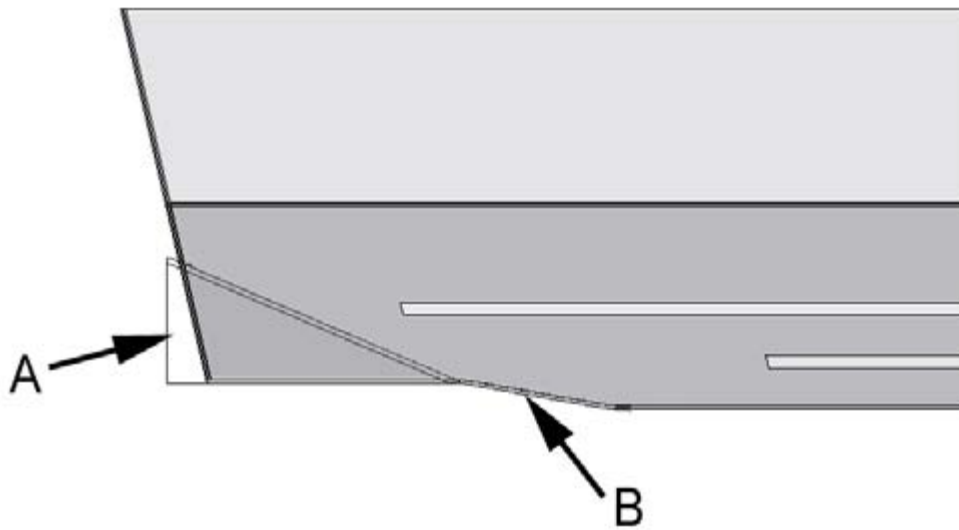
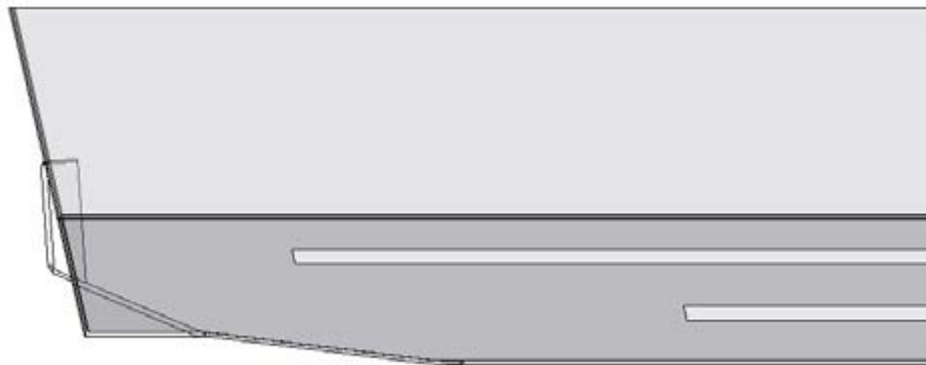

Figure 6. Positioning of the mounting template, "short tail"
Figure 13. Long tail aluminium mounting template
1. Make a hole at the bottom and the stern of the boat for the mounting template. The mounting template should be positioned slightly over the stern of the boat. The excess part can be cut away after installation (figures 6 and 7, point A).
In a long tail installation, the collar of the mounting template covers the inner surface of the stern and the excess material must be cut after installation (figure 13). In a short tail installation, the excess collar is outside the stern (figure 6)